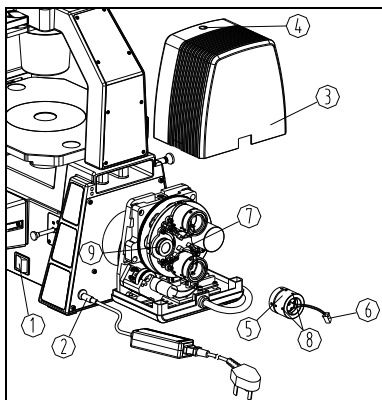

Fig. 28
- (1) Firstly turn the microscope power supply switch① to “OFF”, and pull out the external power supply adaptor plug②.
- (2) Loosen the screw④ on the cover③ of light source, then take off the light source cover③.(See Fig. 28)
- (3) Pull out the connector plug⑥ of the LED fluorescence light source group⑤ from the PCB socket⑦.
- (4) Loosen the two inner hexagon lock screws⑧ of the LED fluorescence light source group⑤, and take off the LED fluorescence light source group⑤ from the light source illuminator group⑨.
- (5) After the new LED fluorescence light source group is installed, fix the new LED fluorescence light source group on the light source illuminator group⑨, with the two inner hexagon lock screws⑧, and insert the connector plug⑥ of the LED fluorescence light source group into the PCB socket⑦.
- (6) Install the light source cover③ back to the original position, and lock the screw④ on the cover③.